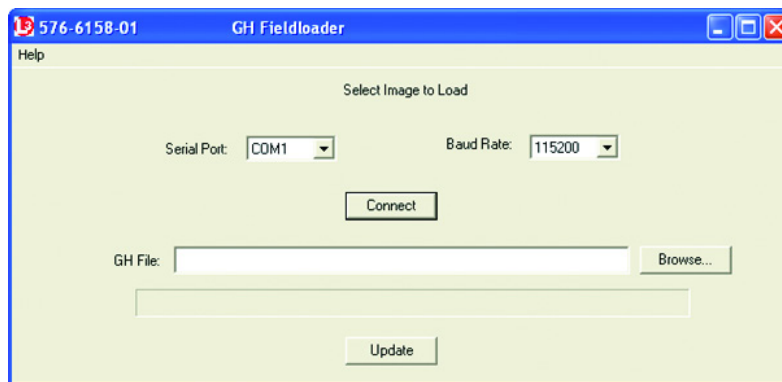

Figure 4-2: Example of GH Field Loader
- b. Start up the GH Field Loader software. See Figure 4-2.